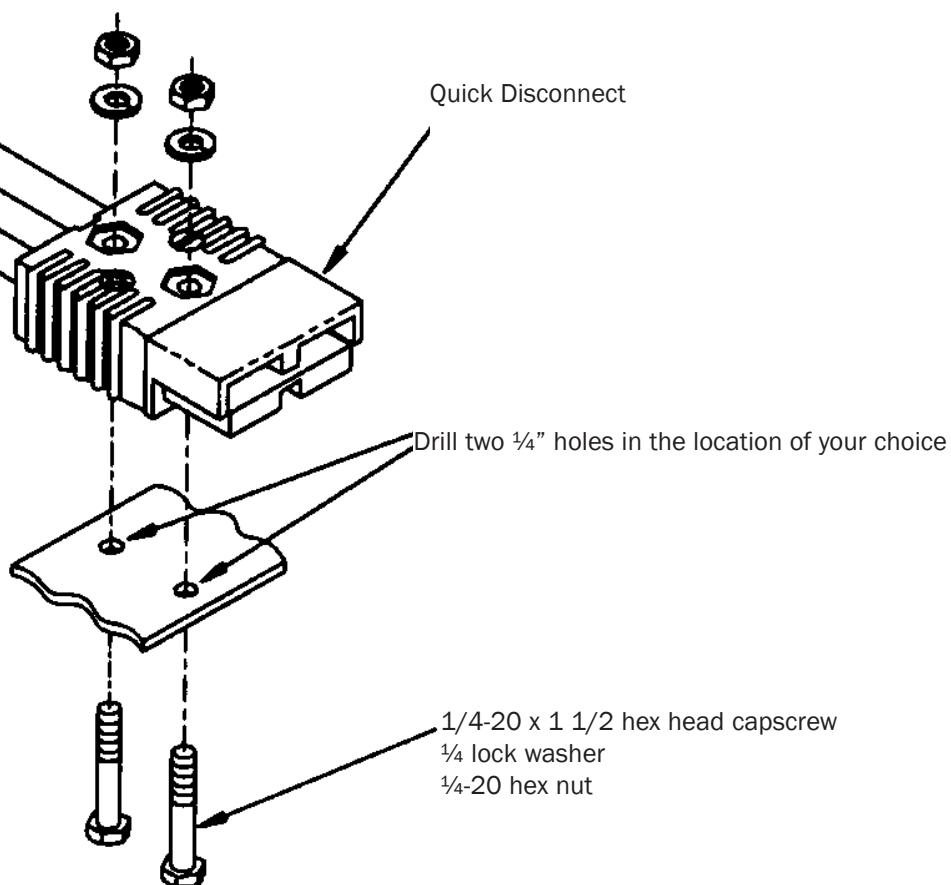

FIGURE 2
3. The 6-foot electrical quick-connect cable furnished is intended for connection to the battery on vehicle front receiver installations. For winch use at the rear of vehicle, longer quick-connect cables are available from Warn dealers. For 20-foot kit, order part number 32963. For 24- foot kit, order part number 32966. Choose a location on the bumper or grille to mount the quick-connect plug as shown in Figure 2. Be sure that the plug from the winch will reach when the multi-mount is inserted in the receiver with hitch pin in place. Connect the + and - cable ends to the vehicle battery.